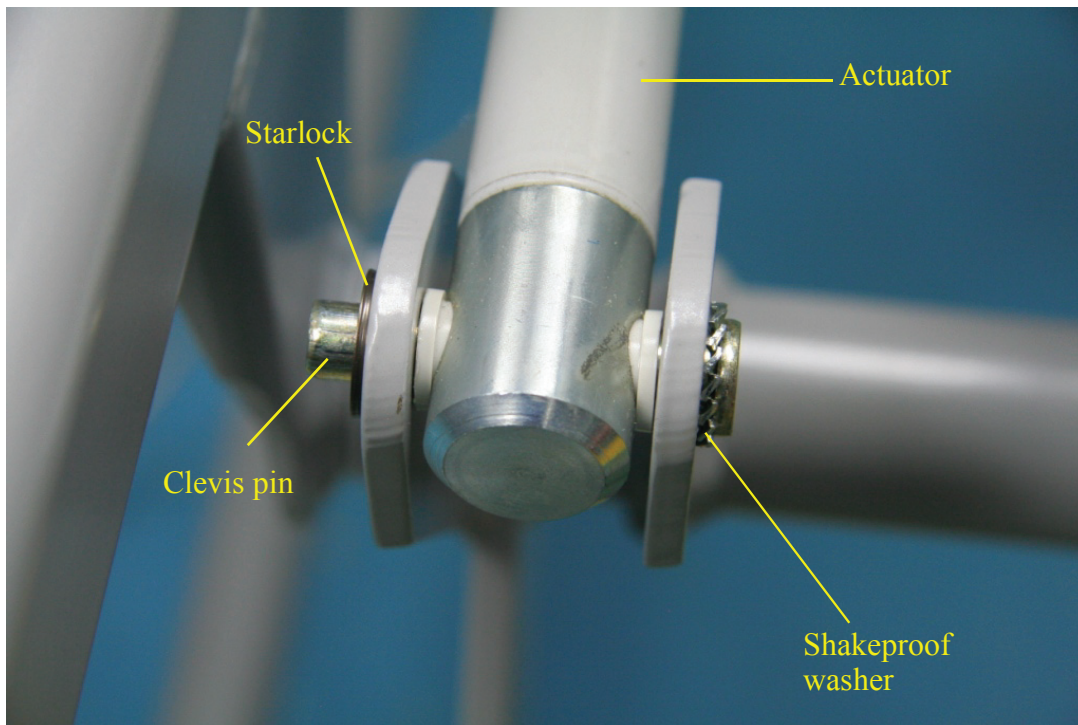

Figure 16: Actuator fasteners
- 15.2.1 Position the height actuator (Fig 4, Item 7) on the bed with the actuator body towards the centre of the bed. Fit a shakeproof washer (Fig 4, Item 21) and clevis pin (Fig 4, Item 8) to attach the actuator body to the sub-frame fabrication (Fig 4, Item 1). Secure with a new starlock (Fig 4, Item 9). Make sure the shakeproof washer and starlock fit tightly against the mounting bracket as shown in Figure 16.
- 15.2.3 Fit the clevis pin (Fig 4, Item 8) and shakeproof washer (Fig 4, Item 21) to attach the actuator ram to the radius arm. Secure with a new starlock (Fig 4, Item 9). Make sure the shakeproof washer and starlock fit tightly against the mounting bracket as shown in Figure 16.
- 16.2.1 Position the backrest actuator (Fig 3, Item 7) on the bed. Use a clevis pin (Fig 3, Item 6) and shakeproof washer (Fig 3, Item 9) to attach the body of the actuator to the sub-frame (Fig 3, Item 11) and secure with a new starlock (Fig 3, Item 10). Make sure the shakeproof washer and starlock fit tightly against the mounting bracket as shown in Figure 16.
- 16.2.3 Attach the actuator ram to the backrest (Fig 3, Item 1) using a clevis pin (Fig 3, Item 6) and shakeproof washer (Fig 3, Item 9) and secure with a new starlock (Fig 3, Item 10). The head of the clevis pin should lie towards the right hand side of the bed. Make sure the shakeproof washer and starlock fit tightly against the mounting bracket as shown in Figure 16.
- 17.2.1 Position the thigh actuator (Fig 3, Item 8) on the bed with the ram pointing towards the foot end. Attach the actuator body to the sub-frame assembly (Fig 3, Item 11) with the clevis pin (Fig 3, Item 6) and shakeproof washer (Fig 3, Item 9). Secure the assembly with a new starlock (Fig 3, Item 10). Make sure the shakeproof washer and starlock fit tightly against the mounting bracket – see Figure 16.
- 17.2.2 Position the thigh section (Fig 3, Item 12) to align the mounting lug with the hole in the thigh actuator ram. Attach the actuator ram to the thigh section using the clevis pin (Fig 3, Item 6) and shakeproof washer (Fig 3, Item 9) and secure with a new starlock (Fig 3, Item 10). Make sure the shakeproof washer and starlock fit tightly against the mounting bracket – see Figure 16.